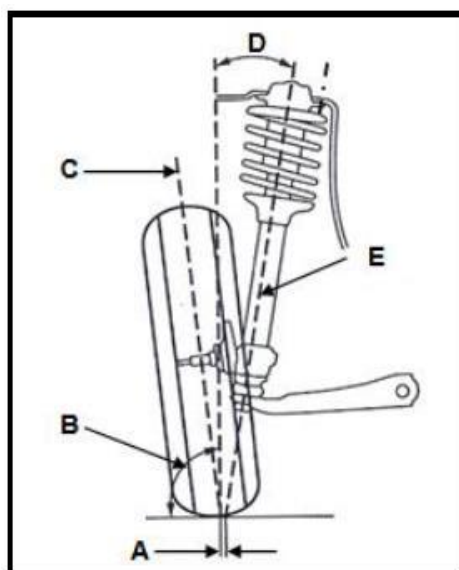

FIGURE 10.6
- 10.6 The diagram in FIGURE 10.6 below shows the kingpin inclination on the suspension of a motor vehicle. Label parts **A–E**.